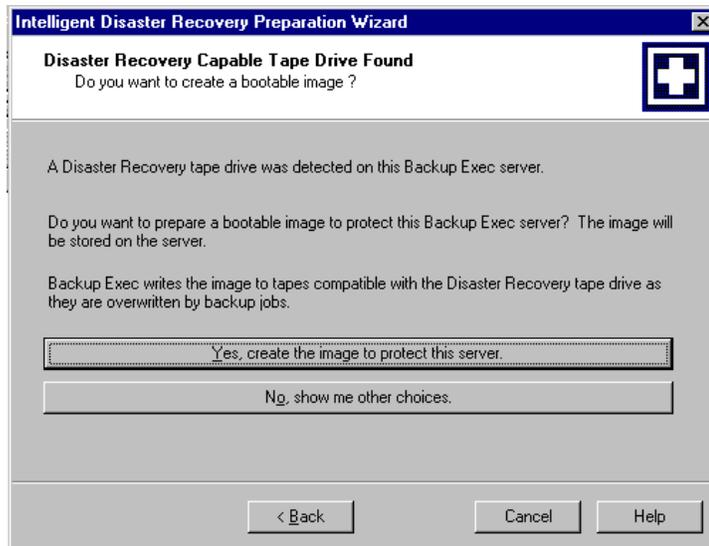

Figure 3: Create bootable image dialog
- When a disaster recovery tape drive is detected on the selected server, a dialog box will appear as shown in Figure 3 asking if you wish to create a bootable image. Click Yes to create the bootable image.